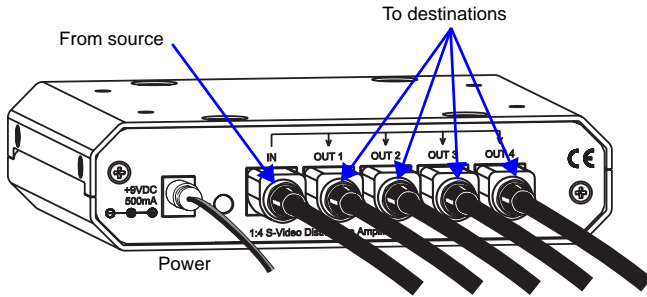

FIG. 5 Attach power cord and S-Video connectors
2. Plug the power cord into the power jack on the module and the power source (FIG. 5).